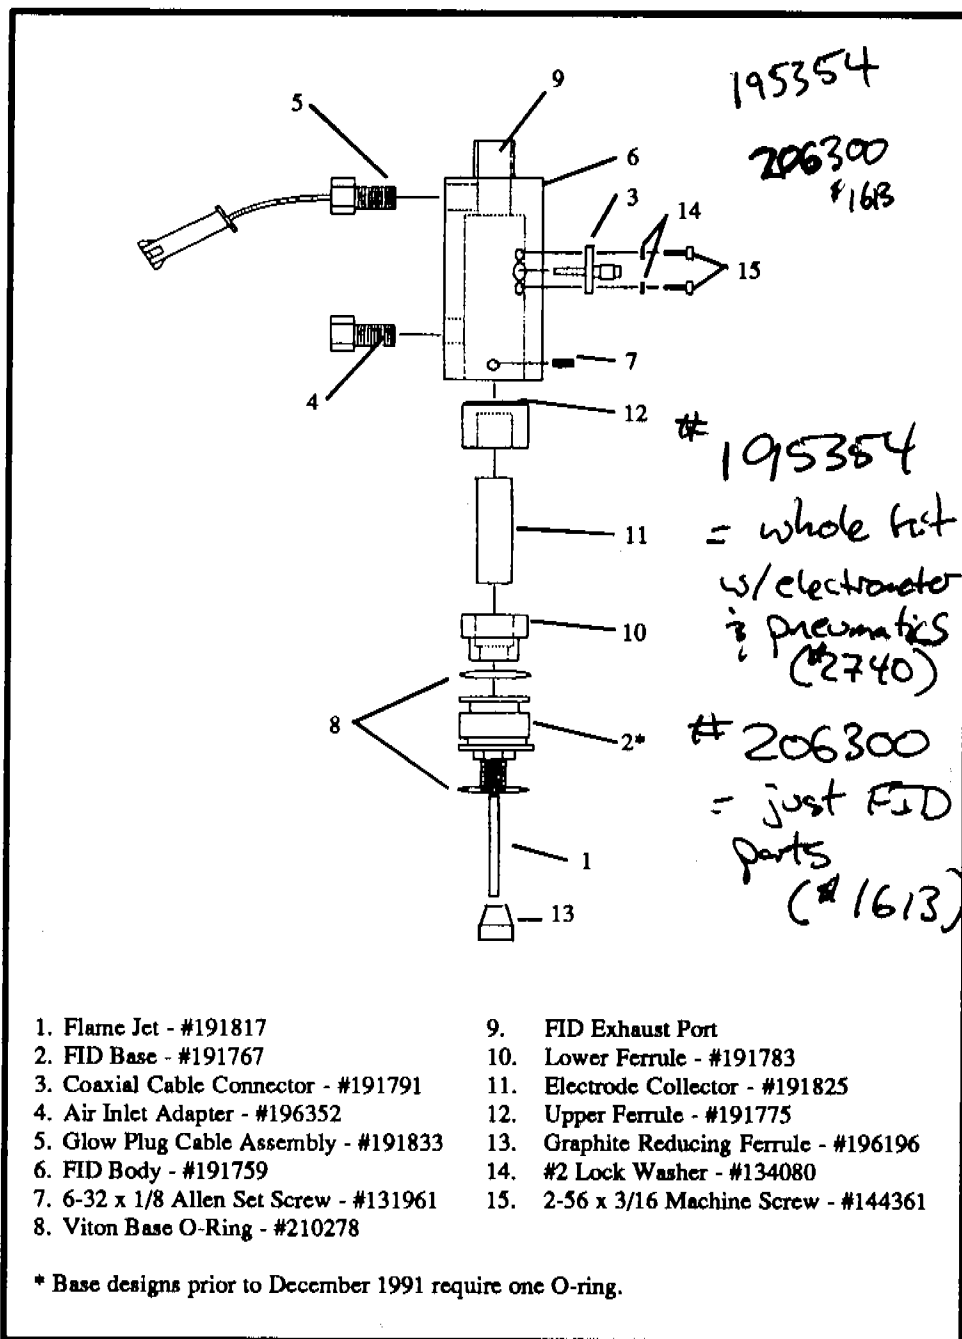

Fig. 2.2 FID Schematic Cross Section
6. **Body** (OI Analytical #191759) contains and supports the internal components of the FID. It fits over the FID base and is secured by a set screw. The base is sealed by a set of O-rings. Fig. 2.2 shows the mechanical relationship of the various parts within the body.